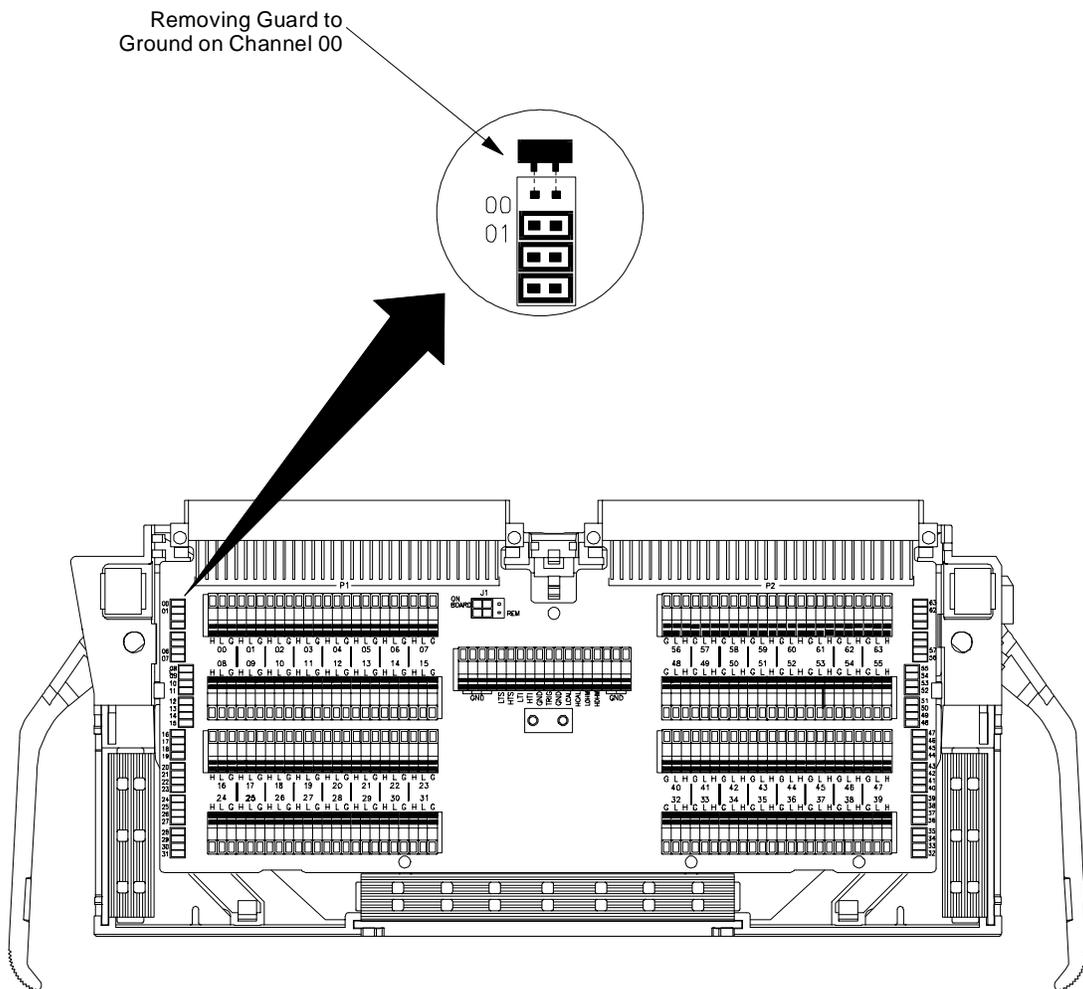

Figure 2-10. Grounding the Guard Terminal
3. The terminal module is shipped with the Ground-Guard (GND-GRD) shorting jumper installed for each channel. These may be left installed or removed (see Figure 2-10 to remove the jumper), dependent on the following conditions: